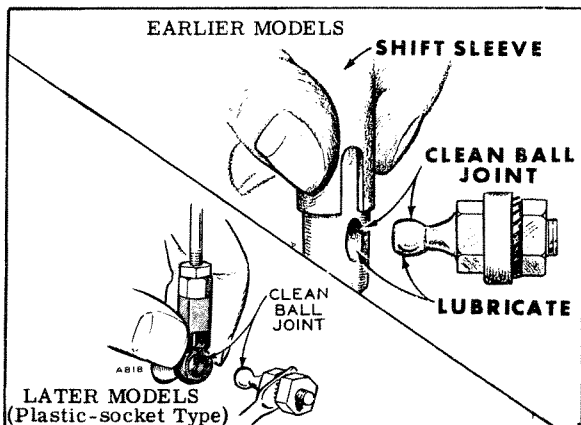

Fig. 14 Governor Linkage Lubrication
GOVERNOR LINKAGE. - Lubricate the linkage ball joints, figure 14, with powdered graphite (preferably), or light, non-gumming lubricating oil. Do not lubricate type with plastic socket.
D. - GOVERNOR LINKAGE. Use lubricating graphite on metal ball joints (figure 14). If graphite is not available, use a light non-gumming lubricating oil. Later models have plastic socket type ball joint and does not require lubrication.